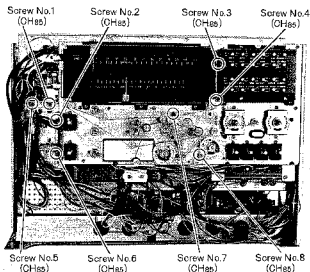

Fig. 15
6. Remove the eight (8) front chassis screws (nos. 1~8), as shown in fig. 15.